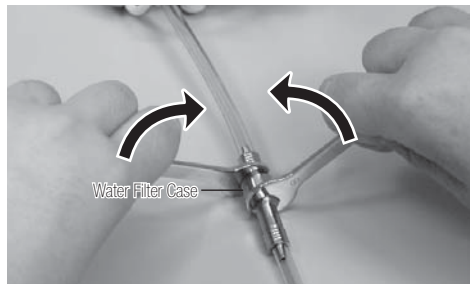

Fig. 25
2) When the Water Filter Case is apart the water filter can be removed as shown in Fig.25. Replace with a new water filter and reassemble the filter in the reverse order.